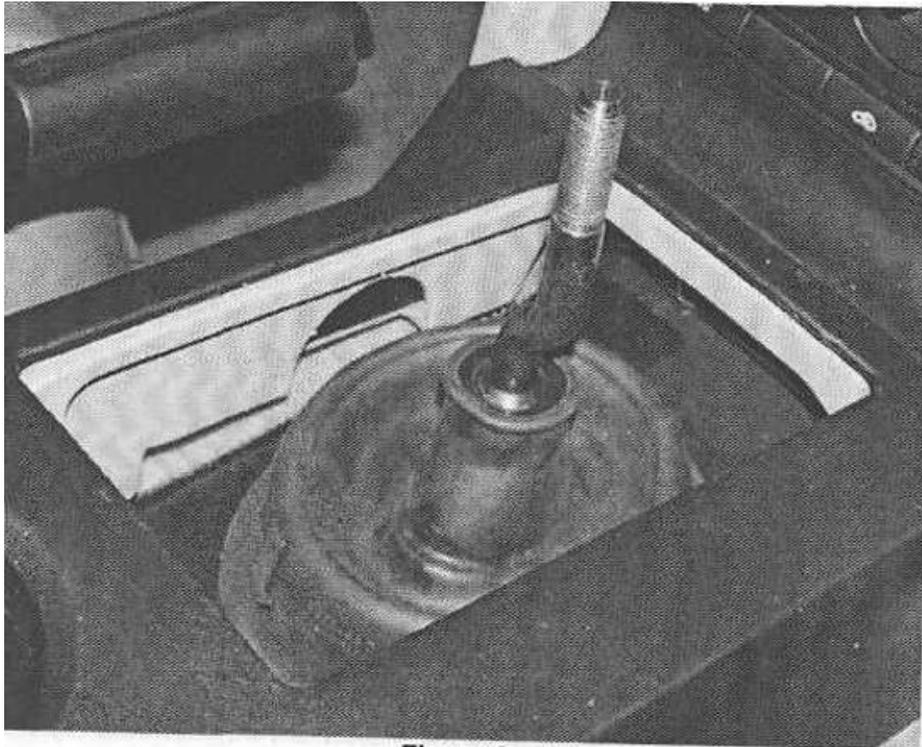

Figure 2
- Using both hands, place fingers underneath inside edges of shifter boot and pull up to release and remove from console. Slide boot up and over shifter stick (Refer to Figure 2).